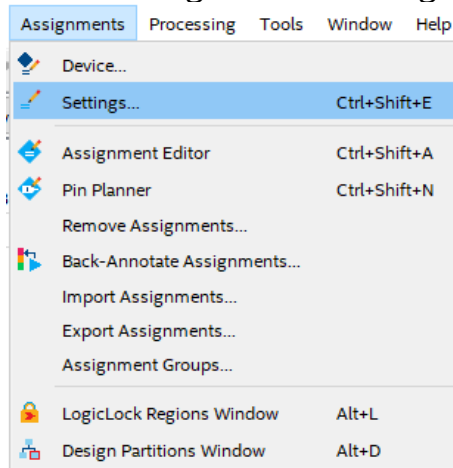

Figure 33 : Settings Menu in Quartus Prime
1. After you have finished creating HPS on QSYS, and TOP File of your design. Open Quartus Prime. Go to Assignment -> Settings as shown in the Figure 33.